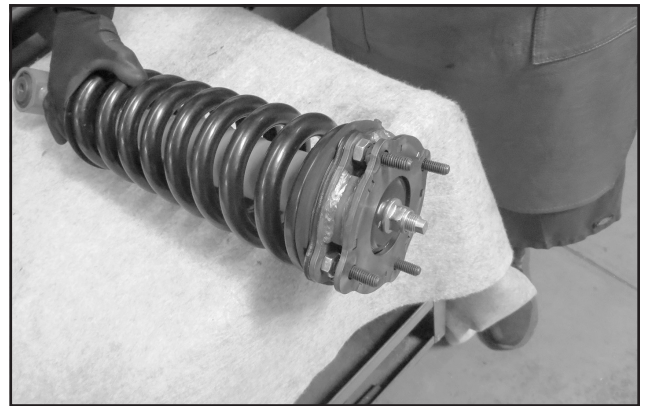

**FIGURE 8 - STEP 8**
8. Remove the lower strut bolt and upper strut nuts, then remove the factory strut from the truck. **(FIGURE 8)**.